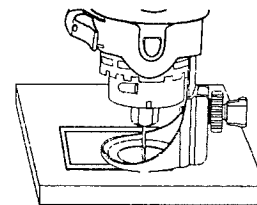

Fig. 7
8. When the motor is up to full speed, slowly tip the tool to an upright position, letting the bit cut into the workpiece (see Fig. 7). Once the tool has reached the upright position and the bit has cut through the workpiece, slowly move the tool in a **clockwise** direction using slow steady pressure to make the cut. NOTE: Except for cutting around outlet boxes in drywall, always cut in a **clockwise** direction.